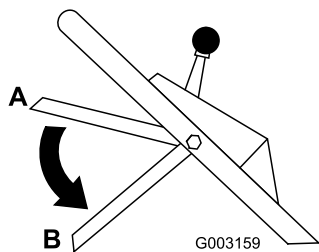

Figure 19
10. Release the blade control bar; refer to position B in Figure 19. You should hear a “bang.” The blade should stop in 3 seconds.
2. Move the blade control bar down to its lowest position (Position B in Figure 19).